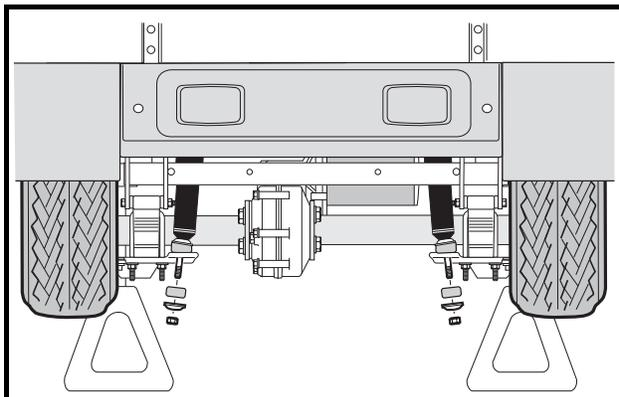
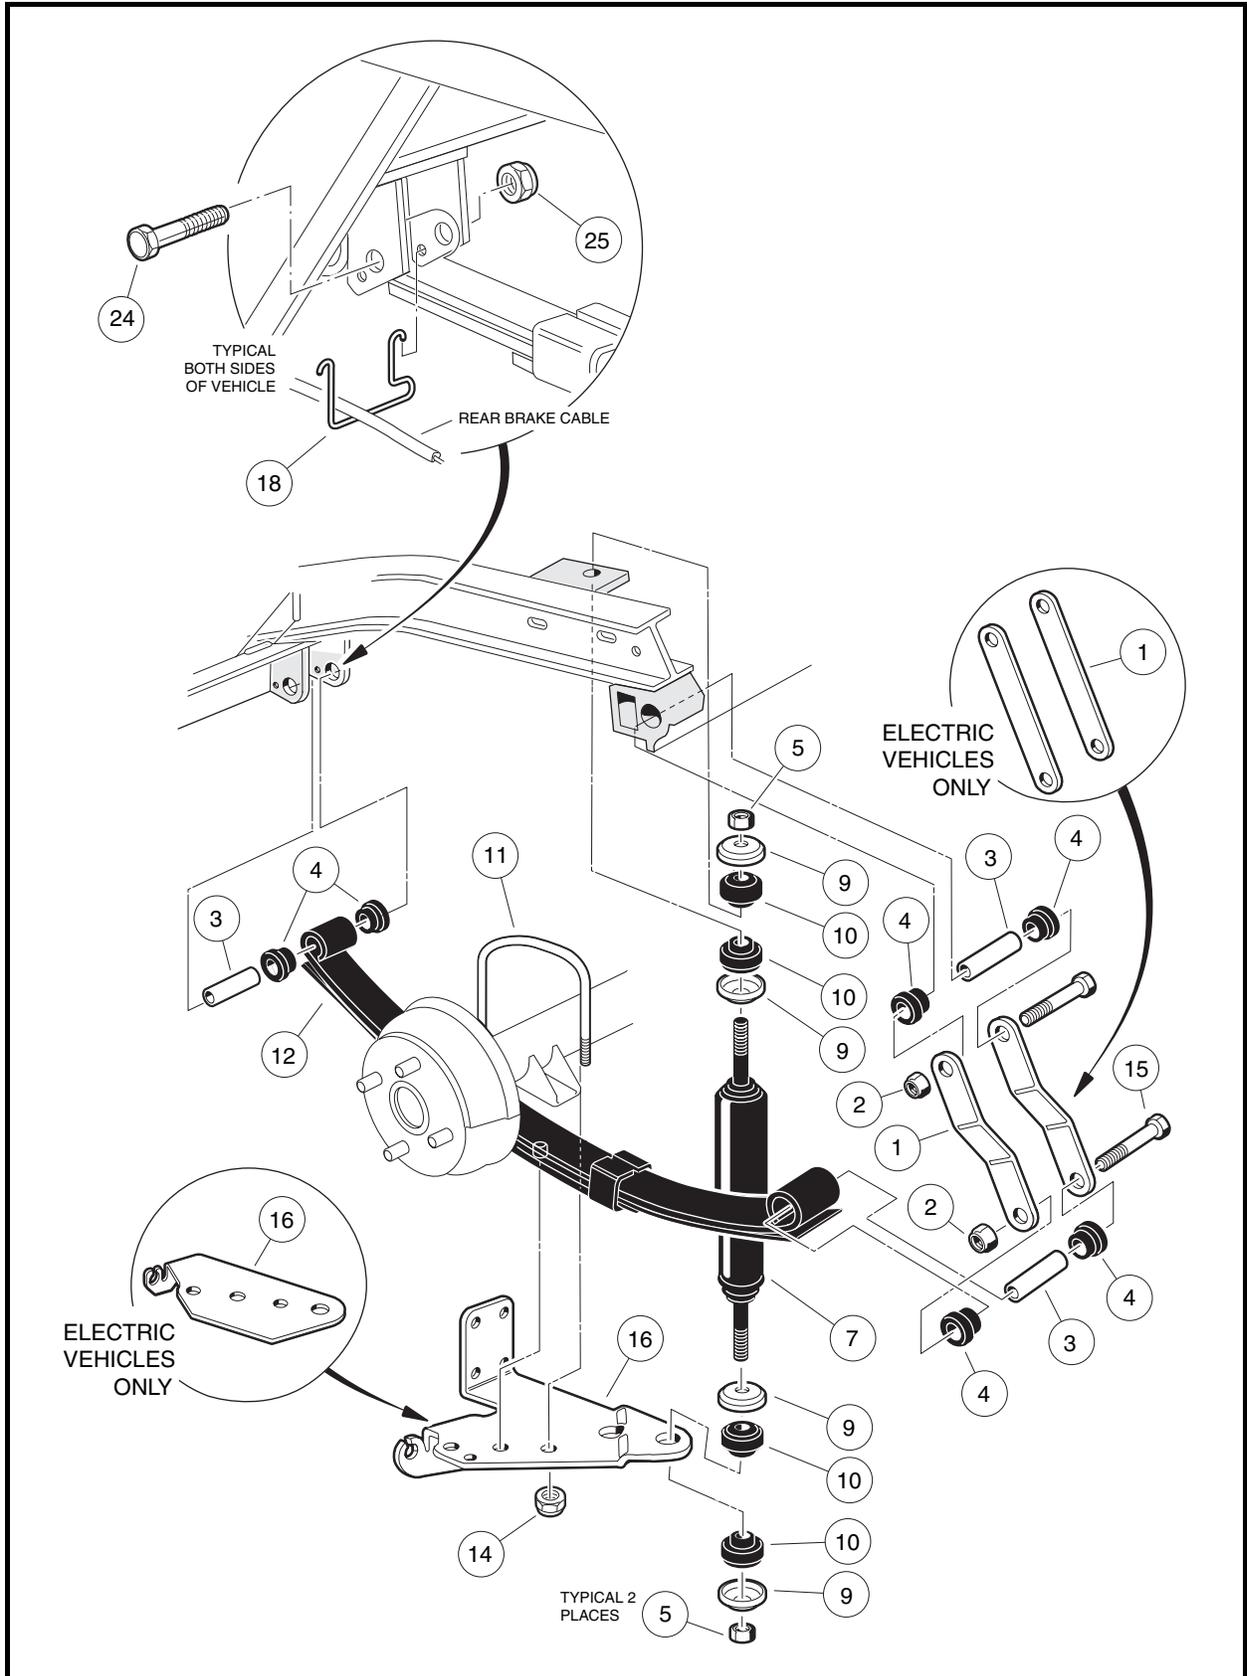

Figure 9-1 Shock Absorber Removal
Figure 9-4 Rear Suspension – All Turf and Carryall Vehicles Except Turf 1 and Carryall 1
1. Check shock absorbers (7) for damage and fluid leakage around the lower housing of the shock absorber body. Replace damaged or leaking shock absorbers (**Figure 9-3, Page 9-4 or Figure 9-4, Page 9-5**).
2. To remove a shock absorber (7), remove the nut (5), cup washer (9), and rubber bushing (10) from the upper shock absorber stem.
3. Remove lower mounting hardware (5, 9 and 10) on shock absorber lower mount (**Figure 9-3, Page 9-4 or Figure 9-4, Page 9-5**). See also **Figure 9-1, Page 9-1**.
2. On the upper shock absorber mount, tighten nut (5) until rubber bushing (10) expands to size of cup washer (9) (**Figure 9-3, Page 9-4 or Figure 9-4, Page 9-5**).
3. On the lower shock absorber mount, install mounting hardware. Tighten the nut (5) until the rubber bushing (10) expands to the same diameter as the cup washer.
5. Remove lower nut (5), cup washer (9), and rubber bushing (10) from shock absorber (7) (**Figure 9-3, Page 9-4 or Figure 9-4, Page 9-5**).
7. **All Turf and Carryall vehicles except Turf 1 and Carryall 1:** Remove the lock nuts (14) attaching the U-bolt (11) to the shock mount bracket (16). Do not disconnect brake cable from bracket (**Figure 9-4, Page 9-5**).
9. Remove bolt (15) and lock nut (2) attaching the leaf spring (12) to the rear shackle (1) (**Figure 9-3, Page 9-4 or Figure 9-4, Page 9-5**).
10. Allow rear of leaf spring (12) to rest on the ground and remove the bolt (24) and lock nut (25) attaching the front of the spring to the vehicle frame (**Figure 9-3, Page 9-4 or Figure 9-4, Page 9-5**). Remove spring from vehicle.
11. Inspect the rubber bushings (4) and steel sleeves (3) in the spring eyes and replace them if they are worn or damaged (**Figure 9-3, Page 9-4 or Figure 9-4, Page 9-5**).
1. Install rubber bushings (4) and steel sleeves (3) into leaf spring eyes if bushings were removed (**Figure 9-3, Page 9-4 or Figure 9-4, Page 9-5**).
2. Place front of leaf spring (12) into vehicle frame and insert bolt (24) through frame and leaf spring eye. Install lock nut (25) and tighten to 15 ft-lb (20.3 N·m).
3. Align the other end of leaf spring with the holes in the spring shackles (1). Insert bolt (15) through leaf spring eye and shackles. Install lock nut (2) and tighten to 15 ft-lb (20.3 N·m). Lower transaxle onto leaf spring (12). **See following CAUTION.**
5. All Turf and Carryall vehicles except Turf 1 and Carryall 1: Install shock mount bracket (16) onto locating bolt at bottom center of leaf-spring (**Figure 9-4, Page 9-5**). See following **NOTE**.
- 5.1. Install U-bolt (11) and lock nuts (14). Tighten U-bolt to 25 ft-lb (34 N·m) (**Figure 9-4, Page 9-5**).